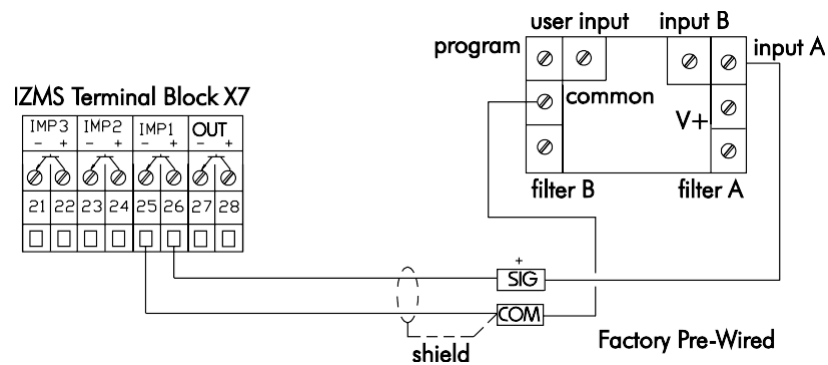

Figure 3-13. RT-50 Rate/Total Indicator Signal Wiring Configuration
- RT-50 Rate/Total Indicator (Figure 3-13)